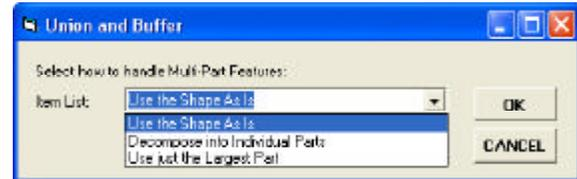

Figure 4
- a. *If a multipart feature has been selected* The choice list dialog box of Figure 4 is displayed for the user to select how to process the selected feature or features. In this case, the user should scroll down in the *Item List*: data field,